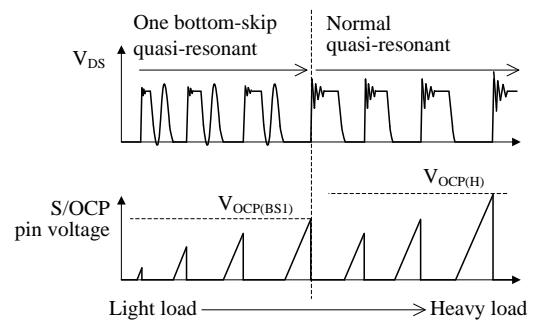
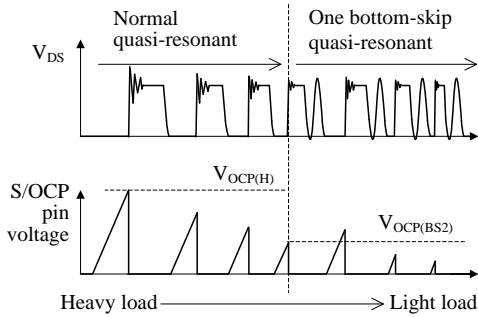

Figure 9-17 Operation state transition diagram from light load to heavy load conditions
Figure 9-18 Operation state transition diagram from heavy load to light load conditions
Figure 9-17 shows the operation state transition diagram of the output load from light load to heavy load. Figure 9-18 shows the state transition diagram from heavy load to light load.
- The mode is changed from one bottom-skip quasi-resonant operation to normal quasi-resonant operation (light load to heavy load). When load is increased from one bottom-skip operation, the MOSFET peak drain current value will increase, and the positive pulse width will widen. Also, the peak value of the S/OCP pin voltage increases. When the load is increased further and the S/OCP pin voltage rises to $V_{OCP(BS1)}$, the mode is changed to normal quasi-resonant operation (see Figure 9-17).
changed to one bottom-skip quasi-resonant operation (see Figure 9-18).